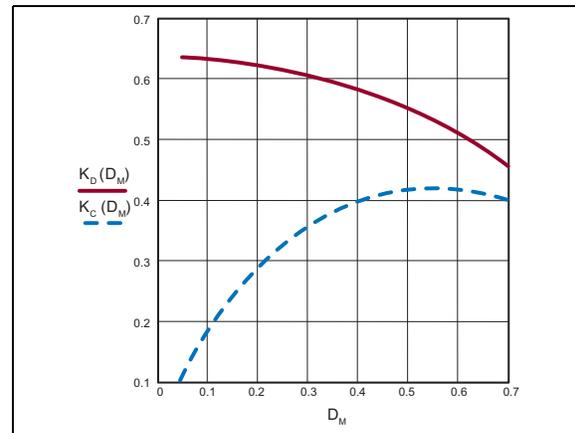

FIGURE 5-1: Conduction Loss Coefficients K_C and K_D .
3. Conduction Power Loss (See Equation 5-18.) $K_C = 0.2$ and $K_D = 0.63$ for $D_M = 0.11$ from the conduction loss coefficient curves in Figure 5-1.
$K_C = 0.25$ and $K_D = 0.62$ for $D_M = 0.16$ from the conduction loss coefficient curves in Figure 5-1.